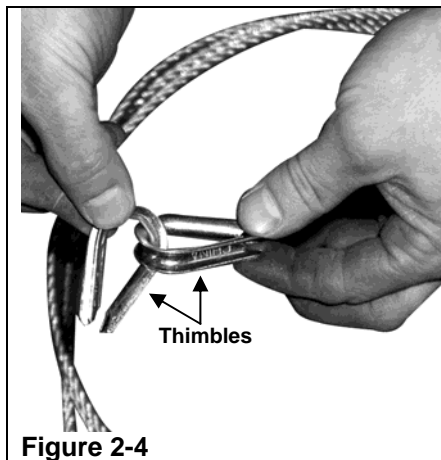

Figure 2-4
- 1) Slide thimbles together. (See Figure 2-4).
- 2) Slide (2) two cable clamps onto cable.